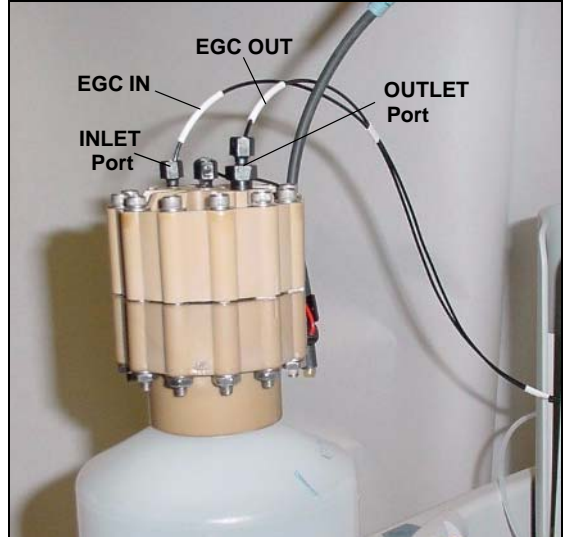

Figure 5-41. EluGen Cartridge Inlet and Outlet Connections
13. Connect the **EGC OUT** line from the holder to the **OUTLET** port (see Figure 5-41).